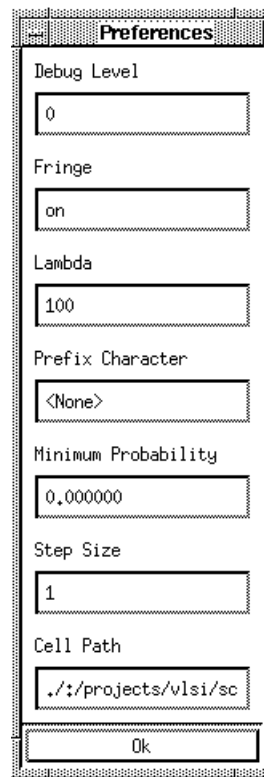

Figure 9.4: Preferences Windows
**Preferences...** This option displays a window with the various settings used by Carafe. The settings are Debug Level, Fringe, Lambda, Prefix Character, Minimum Probability, Step Size, and Cell Path. These settings are explained in the **Carafe Command Line Interface** chapter in the **Set** section and also in the **Running Carafe** chapter. Figure 9.4 shows